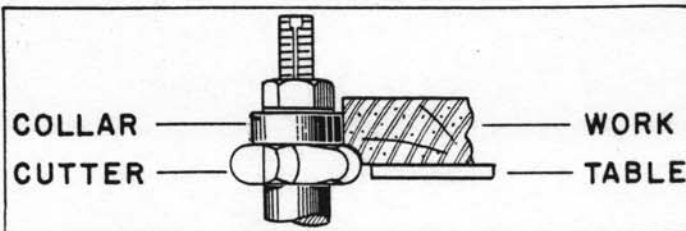

Fig. 17
3. When the collar is used above the cutter as shown in Fig. 17, the cut cannot be seen, yet this method offers some advantage in that the cut is not affected by slight variations in the thickness of the stock. Also, accidental lifting of the work will not gouge the workpiece. Simply correct the mistake by repeating the operation.